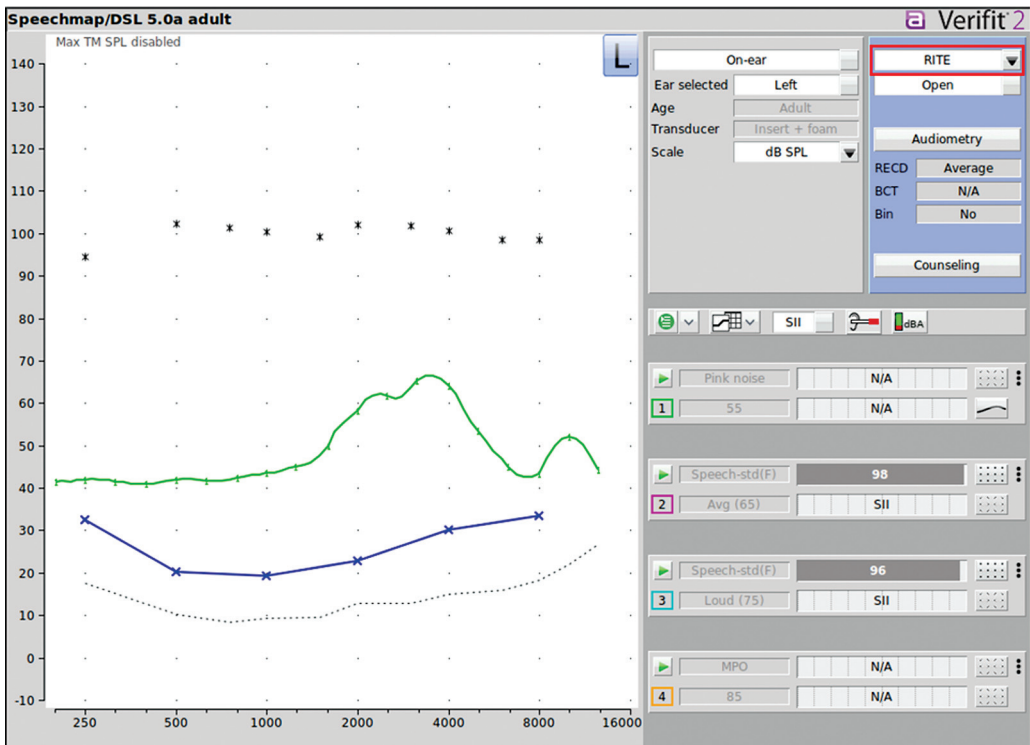

Figure 17 Open-ear measurement of the normal hearing ear when pink noise is presented.
7. Select the **green arrow** above Test 1 and select Pink Noise (55 dB). Click the **red circle** to capture the recording (Figure 17).